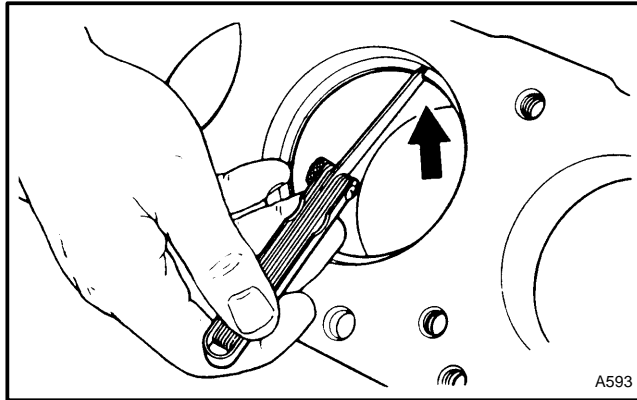

FIGURE 29. CHECK THE END CLEARANCE OF THE PISTON RINGS
2. Measure the end clearance of each piston ring as shown in FIGURE 29. The end clearances are shown in the ENGINE SPECIFICATIONS. Install the piston ring into the cylinder where it will be used. Use a thickness gauge to measure the amount of end clearance. Replace the piston if the clearances are greater than the specifications.